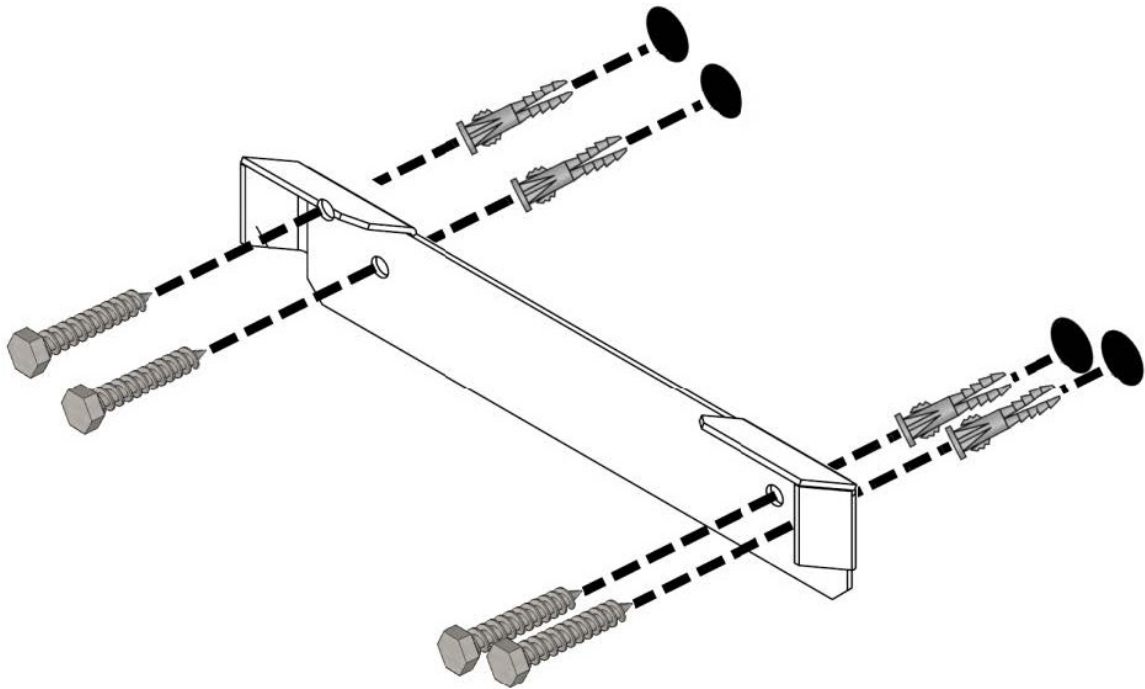

Figure 6. Wall mounting.
2. Using a 10 mm masonry drill bit, drill 4 holes using the bracket as a template (Figure 6).